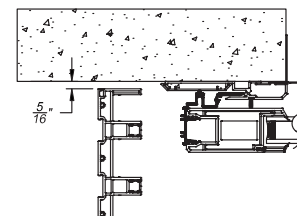

Figure 10b
- 7. By-pass doors, skip to Step 9; Pocket Doors Only:** Seal under entire length of P-hook (Item 12) and position it on the wall at the pocket opening aligning the notches with the frame head and sill (Figure 10a). The edge of the P-hook should align with the edge of the wall (Figure 10b).